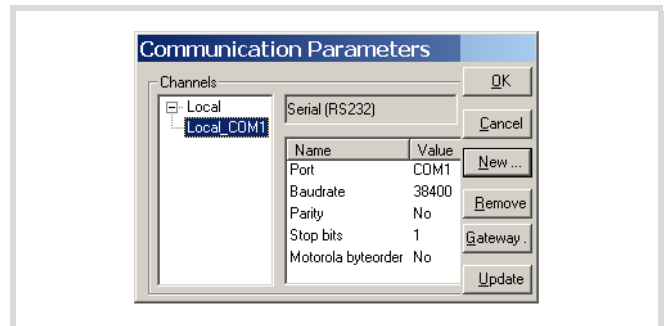

Figure 73: Defining the PC's communication settings
The communication parameters of both the PC and the PLC must match in order to establish a connection between them. The default parameters are set as shown in figure 73 on devices that are used for the first time. Just select the COM... interface on the PC. No other settings are required.
- ▶ Use the remaining settings as shown in figure 73.